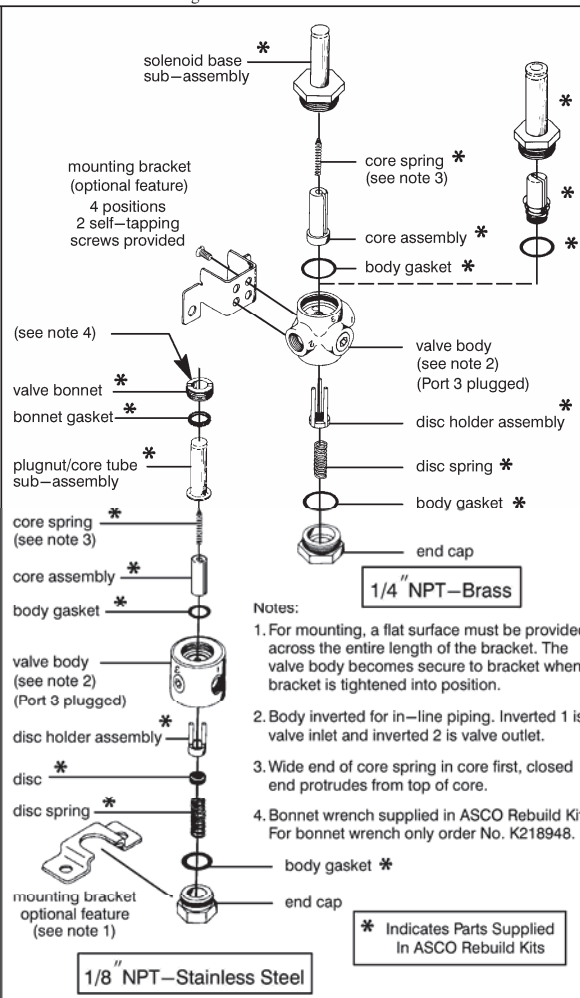

Figure 4. Series 8262, normally open construction.
Plug Connector Kit No. 226-061: The open-frame solenoid with spade terminal connections may be used with the plug connector kit providing a 2-pole with grounding contact Type 3 x DIN 46244 construction (See Figure 4).
INSTALLATION OF PLUG CONNECTOR KIT NO. 226-061 (Refer to Figure 4)
3. Thread wire through gland nut, gland gasket, washer and connector housing. NOTE: Connector housing may be rotated 180° from position shown in Figure 4 for alternate positioning of cable entry.